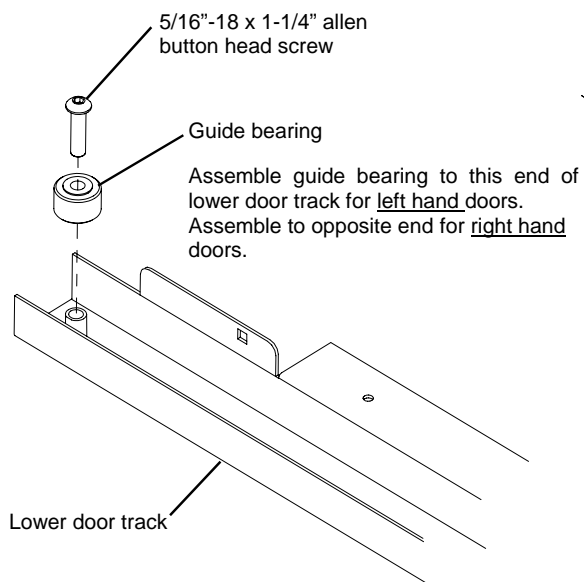

Figure 21
7. Assemble the guide bearing to the lower door track. See figure 21.